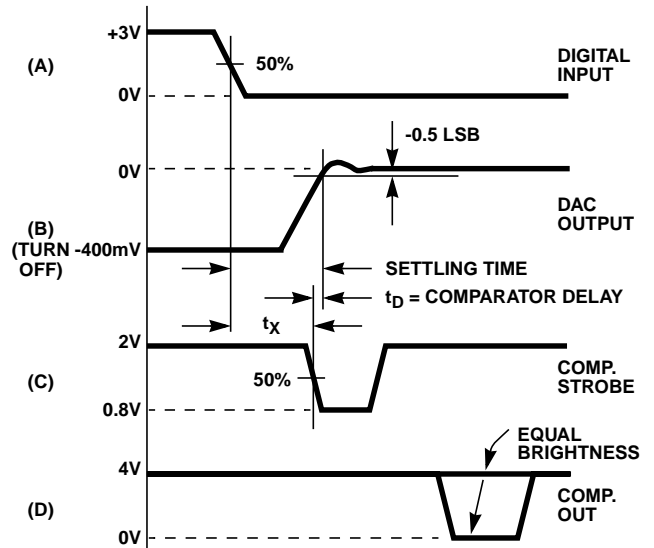

FIGURE 3B.
As shown in Figure 3B, settling time equals t_{X} plus the comparator delay ($t_{\text{D}} = 15\text{ns}$). To measure t_{X} :
- Adjust the V_{LSB} supply for 50% triggering at COMPARATOR OUT. This is indicated by traces of equal brightness on the oscilloscope display as shown in Figure 3B. Note DVM reading.
- Switch the LSB to Pulse (P).
- Measure t_{X} from scope as shown in Figure 3B. Settling time equals $t_{\text{X}} + t_{\text{D}}$, i.e., $t_{\text{X}} + 15\text{ns}$.